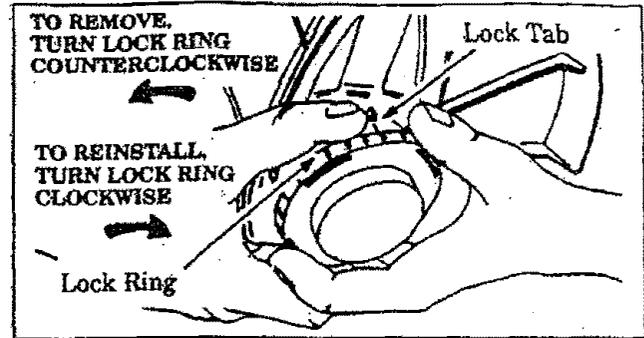

Figure 11
- b. Hold the unit as shown in Figure 11. Press the Lock Tab and turn the Lock Ring counterclockwise. Figure 11.